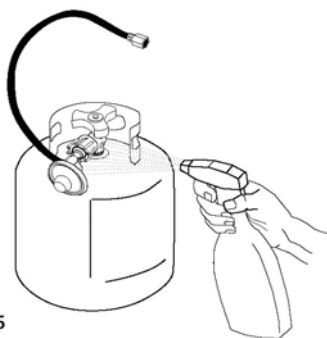

FIG. 5
**WARNING: Always conduct a leak test before lighting the Grill, to prevent possible fire or explosion ( see Fig. 5 )**